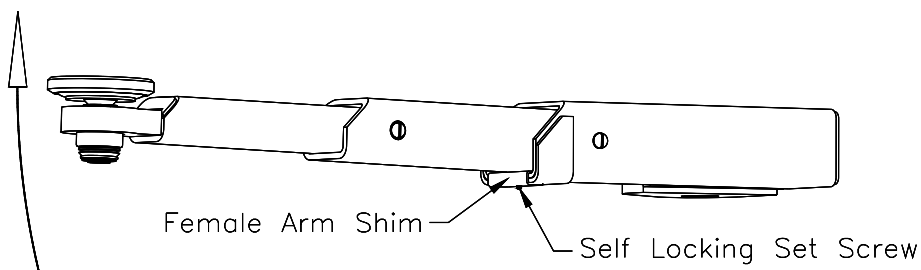

Fig 11 – Arm Shim, 3-Stage
28. Extend the arm fully and lift up on the male portion, **Fig. 11**.